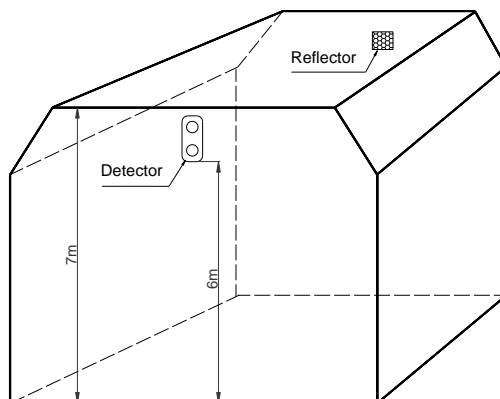

Fig. 5
- b) When space height is between 5m and 8m, the detector and reflector should be mounted on the two facing walls 0.5m to 1m from the ceiling, as shown in Fig. 5.